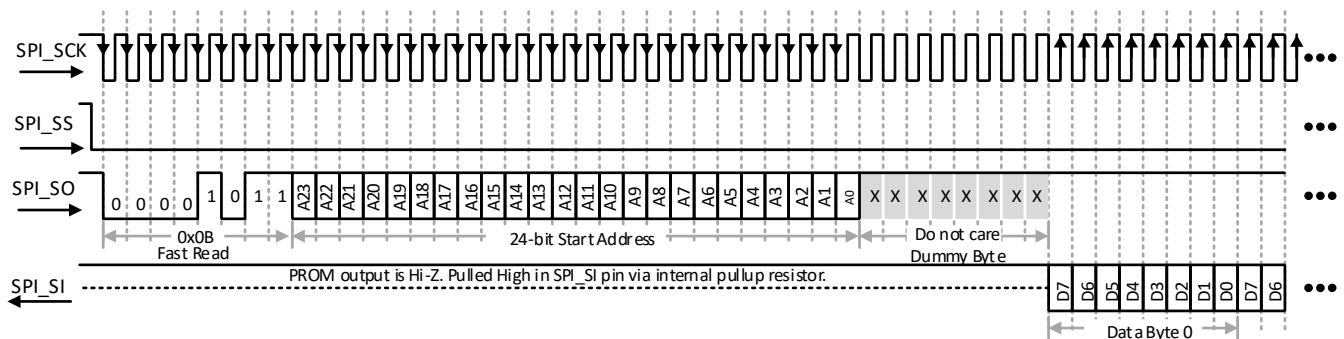

Figure 9.4. SPI Fast Read Command
- The PROM must support the 0x0B Fast Read command with a 24-bit start address and 8 dummy bits before providing the first data byte (see Figure 9.4).
Figure 9.4 illustrates the next command issued by the iCE40 device. The iCE40 SPI interface again drives SPI_SS Low, followed by a Fast Read command, hexadecimal command code 0x0B, followed by a 24-bit start address, transmitted on the SPI_SO output. The iCE40 device provides data on the falling edge of SPI_SS. Upon initial power-up, the start address is always 0x00_0000. After waiting eight additional clock cycles, the iCE40 device begins reading serial data from the SPI PROM. Before presenting data, the SPI PROM serial data output is high-impedance. The SPI_SI input pin has an internal pullup resistor and sees high-impedance as logic 1.